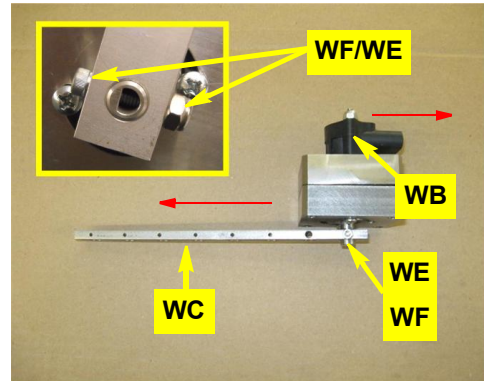

Figure 1b: Attached WAS arm
- b. Using hardware **WE** (nut) and **WF** (screw), attach the WAS connector arm **WC** to the WAS assembly. Mount the arm in the opposite direction to the WAS wire connector **WB** (Figure 1b. **Note:** The connector arm shown in Figure 1b has been shortened. For this installation, you will use the full length, uncut **WC**.)